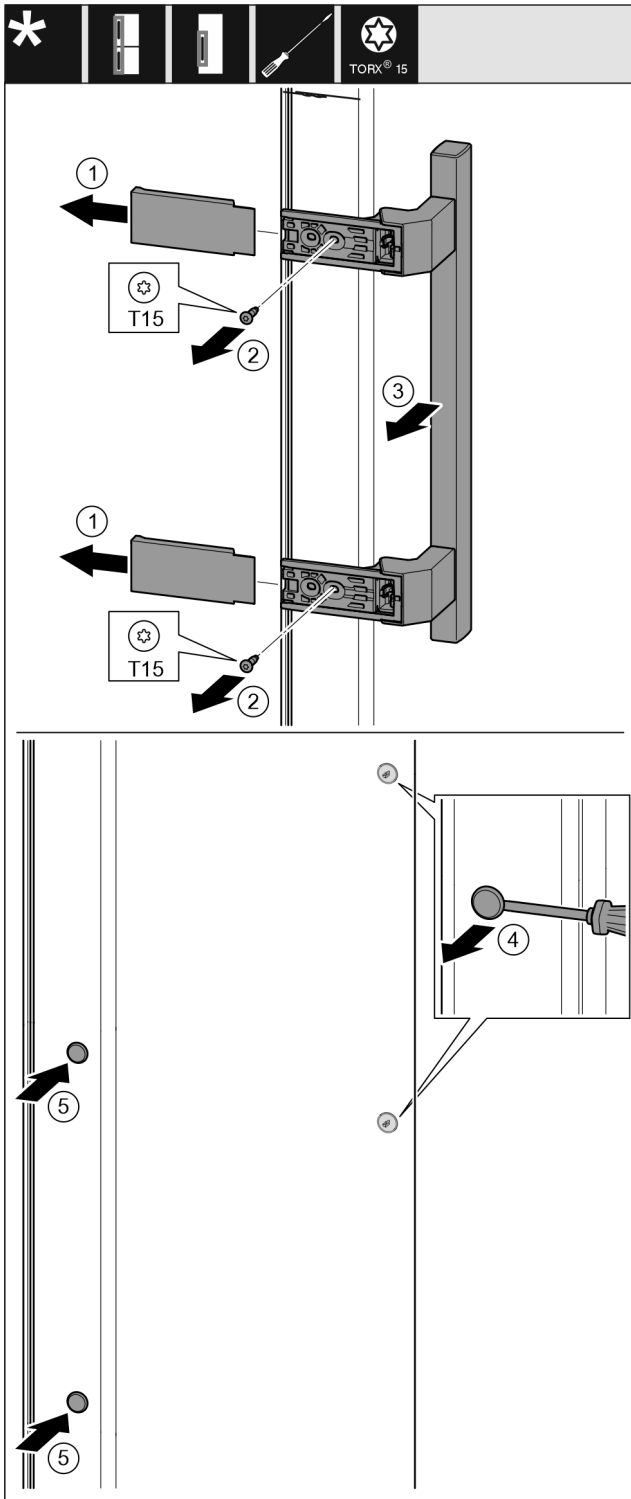

Fig. 19
- ▶ Pull off the cover. Fig. 19 (1)
- ▶ Remove the screws with a T15 screwdriver. Fig. 19 (2)
- ▶ Take off the handle. Fig. 19 (3)
- ▶ Carefully lift up the side plugs with a slotted screwdriver and pull them out. Fig. 19 (4)
- ▶ Insert the plugs again on the other side. Fig. 19 (5)